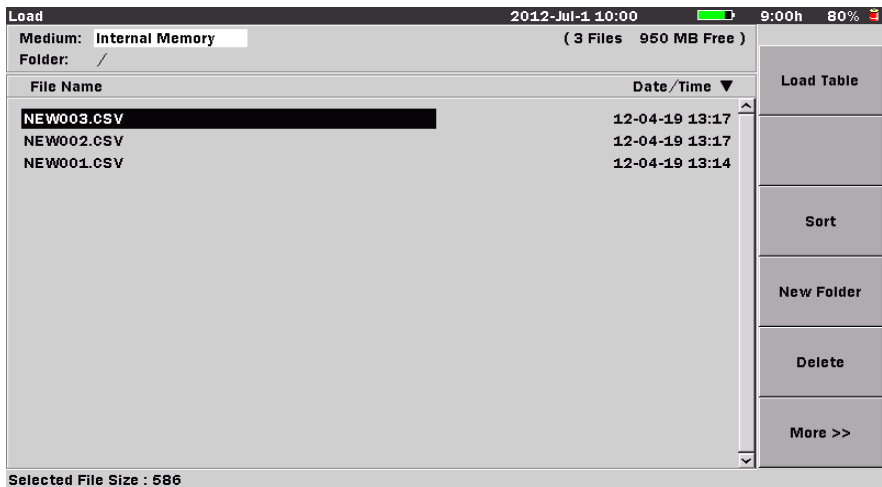

Figure 8-14: Load screen – Loss Test Set mode
Use either the Save screen (see Figure 8-13 on page 8-34) or the Load screen (see Figure 8-14 on page 8-39) to delete any data files stored in the internal memory or on a USB memory stick. You can delete a single file, multiple files or all of the files in the current directory.
1. Press the **Save key**, or the **File key**, if not already displaying either the Save screen (see Figure 8-13 on page 8-34) or the Load screen (see Figure 8-14 on page 8-39).
Use either the Save screen (see Figure 8-13 on page 8-34) or the Load screen (see Figure 8-14 on page 8-39) to copy data files stored in the internal memory or on a USB memory stick. You can copy a single file, multiple files or all of the files in the current directory.
- Press the **File key**. The Load screen appears (see Figure 8-14, below).